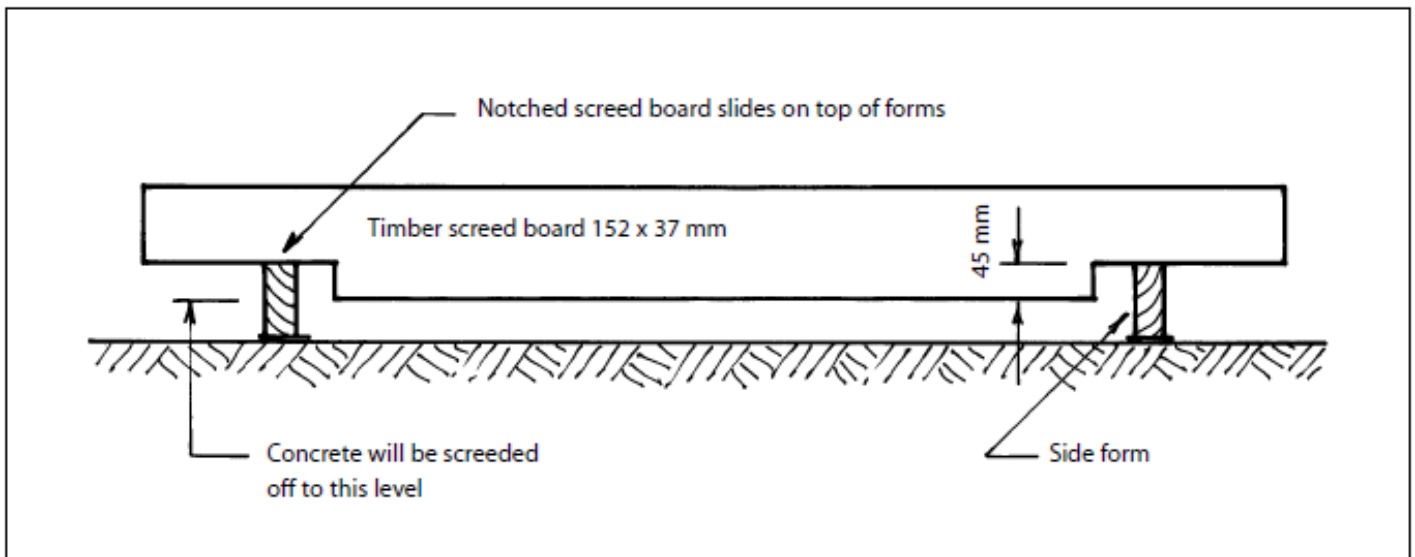

Figure 6: Notched screed board
- The concrete is first compacted and screeded off to a depth of 45 mm below the top edges of the side forms. A notched screed board as shown in Figure 6 should be used. The concrete is initially placed and roughly levelled off slightly higher than the required level (a notched template may be used for this). The notched screed board is then used with a chopping action to compact the concrete. When the concrete is compacted the notched screed board is used with a sawing action, while sliding on the side forms, to screed the concrete to the required level.